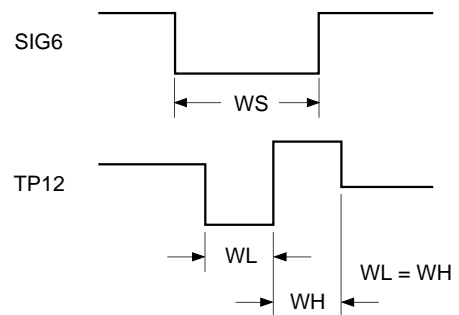

Fig. 1-2. Horizontal AFC adjustment
Input SIG6 (VL = 0mV) to (A) and adjust VR12 so that WL and WH of the TP12 output waveform are the same. (See Fig. 1-2.)